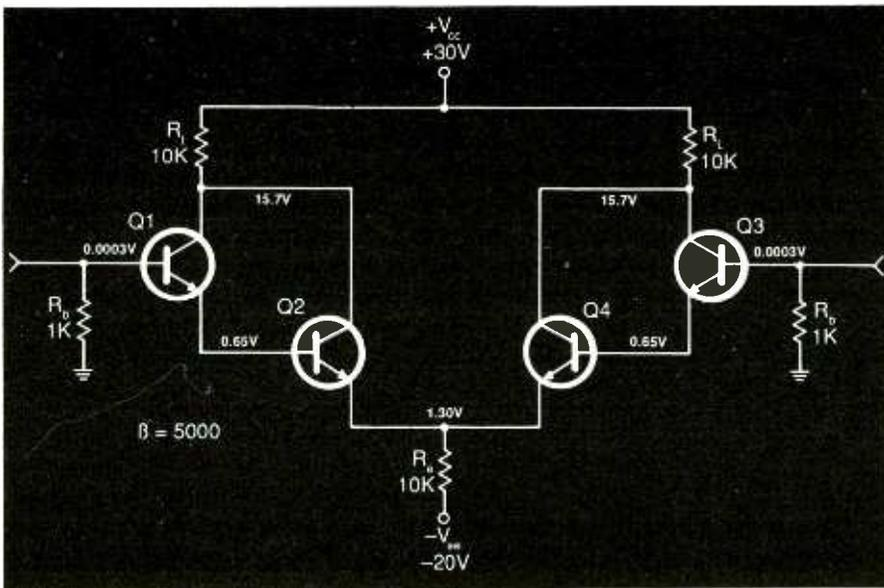
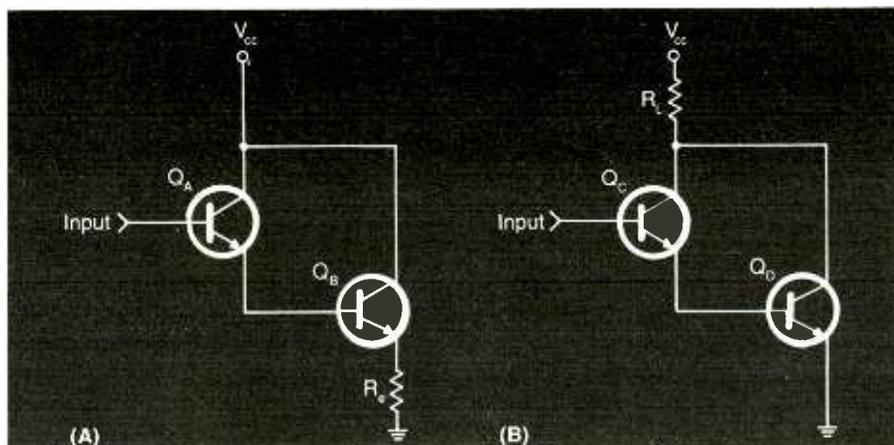

Fig. 3. Basic Darlington amplifier circuit configuration.
Fig. 4. Basic Darlington circuits: (A) emitter-follower and (B) compound amplifier.
urations. A basic differential Darlington common-emitter amplifier circuit arrangement is depicted in Fig. 3. This circuit employs two Darlington pairs—one consisting of transistors Q1 and Q2, the other consisting of transistors Q3 and Q4. Here, Q1 operates as a typical common-emitter stage, with Q2 its active load and resistor R_{L1} its passive load. Similarly, Q3 functions as a simple common-emitter stage with Q4 and R_{L1} acting as its active and passive loads.
It is helpful in troubleshooting electronic circuits to sectionalize the Fig. 3 circuitry to more easily follow circuit action. Thus, in Fig. 4, you are concerned with two basic Darlington circuits contained in the differential circuit configuration.
Note also with regard to Fig. 4 that there are two barrier-potential drops present in the Darlington emitter-follower. The base-emitter potential of Q_A will be approximately 0.65 volt. In turn, the total barrier-potential drop in this branch is approximately 1.3 volts. This is a very practical point to consider. For example, if you measure 0.65 volt from base to emitter for Q_A but only 0.1 volt from base to emitter for Q_B , you would immediately conclude that Q_B has serious base-emitter leakage, and means this transistor must be replaced.
Next, consider the common-emitter amplifier arrangement shown schematically in Fig. 4(B). This is the circuit for the Darlington compound pair in a common-emitter configuration, or a compound amplifier circuit. Here you should note that the chief difference between Fig. 4(B) and a single-transistor arrangement is that the former has a much higher dc beta value. For this reason, a Darlington pair is also commonly referred to as a "beta multiplier."
Due to the greatly increased beta value, the voltage gain of the Fig. 4(B) Darlington stage is much greater than if a single transistor had been used. It is worthwhile at this juncture to repeat an important point: there are two barrier-potential voltage drops in a compound amplifier circuit, and the total barrier-potential drop in the branch is normally approximately 1.3 volts.
Figure 5 shows the two sections depicted in Fig. 4 combined. Resistor R_b is included in Fig. 5 to complete the bias circuit. This arrangement is half of the complete Darlington differential amplifier circuit configuration shown in Fig. 3. This breakdown facilitates analysis of off-value dc-voltage distribution patterns.
Note in Fig. 3 that the base voltages for Q_1 and Q_3 are normally the same and are much lower than for a differential amplifier made up of single transistors. The base potential for the single-transistor version was approximately 10 millivolts. The Darlington pair operates at a base potential of only 0.3 millivolt, thanks to its inherent beta-multiplication action. The emitter potential for the single-transistor arrangement was 0.67 volt, whereas the emitter potential for the Darlington arrangement is 1.3 volts. This difference is due mainly to the fact that there are two base-emitter barrier-potential drops in the Darlington circuit.
Now to examine the effect off-value parameters have on the dc voltage-distribution patterns for the Fig. 3 configuration. You start by following the action in the first half of the circuit while disregarding the second half (Fig. 5). Note first that if R_L goes high, V_C goes low and only a very slight change in V_B and V_E occurs. For example, if R_L increases in value from 10,000 ohms to 15,000 ohms, V_C drops from 16.3 volts to 9.5 volts, but virtually no change occurs in V_B and V_E .